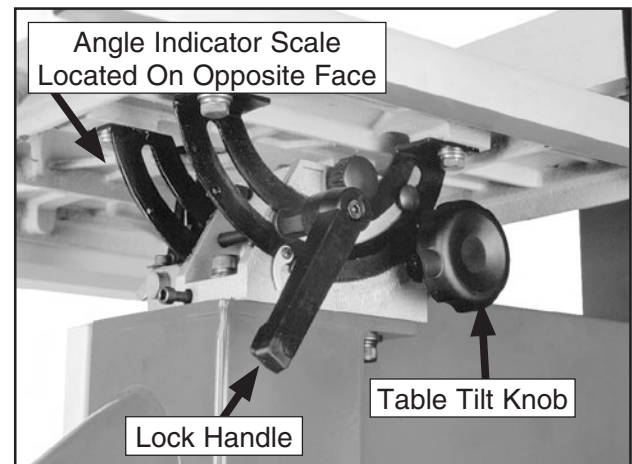

Figure 58. G0514X Table tilt controls.
2. Loosen the lock handle on the table trunnion shown in **Figure 58**.